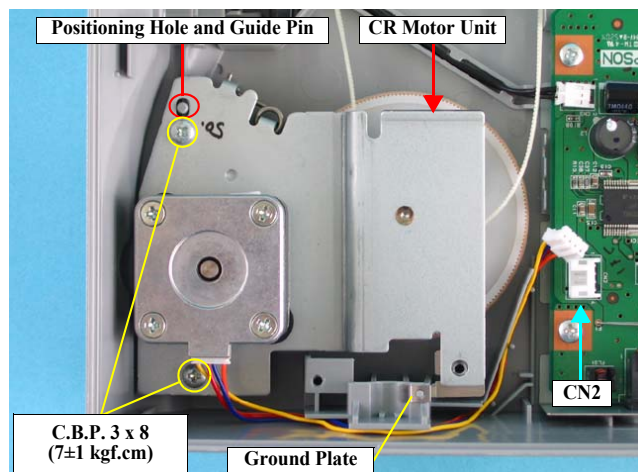

Figure 4-23. Removing the CR Motor Unit
- When installing the CR Motor Unit, match the positioning hole and the guidepin as shown in Figure 4-23.